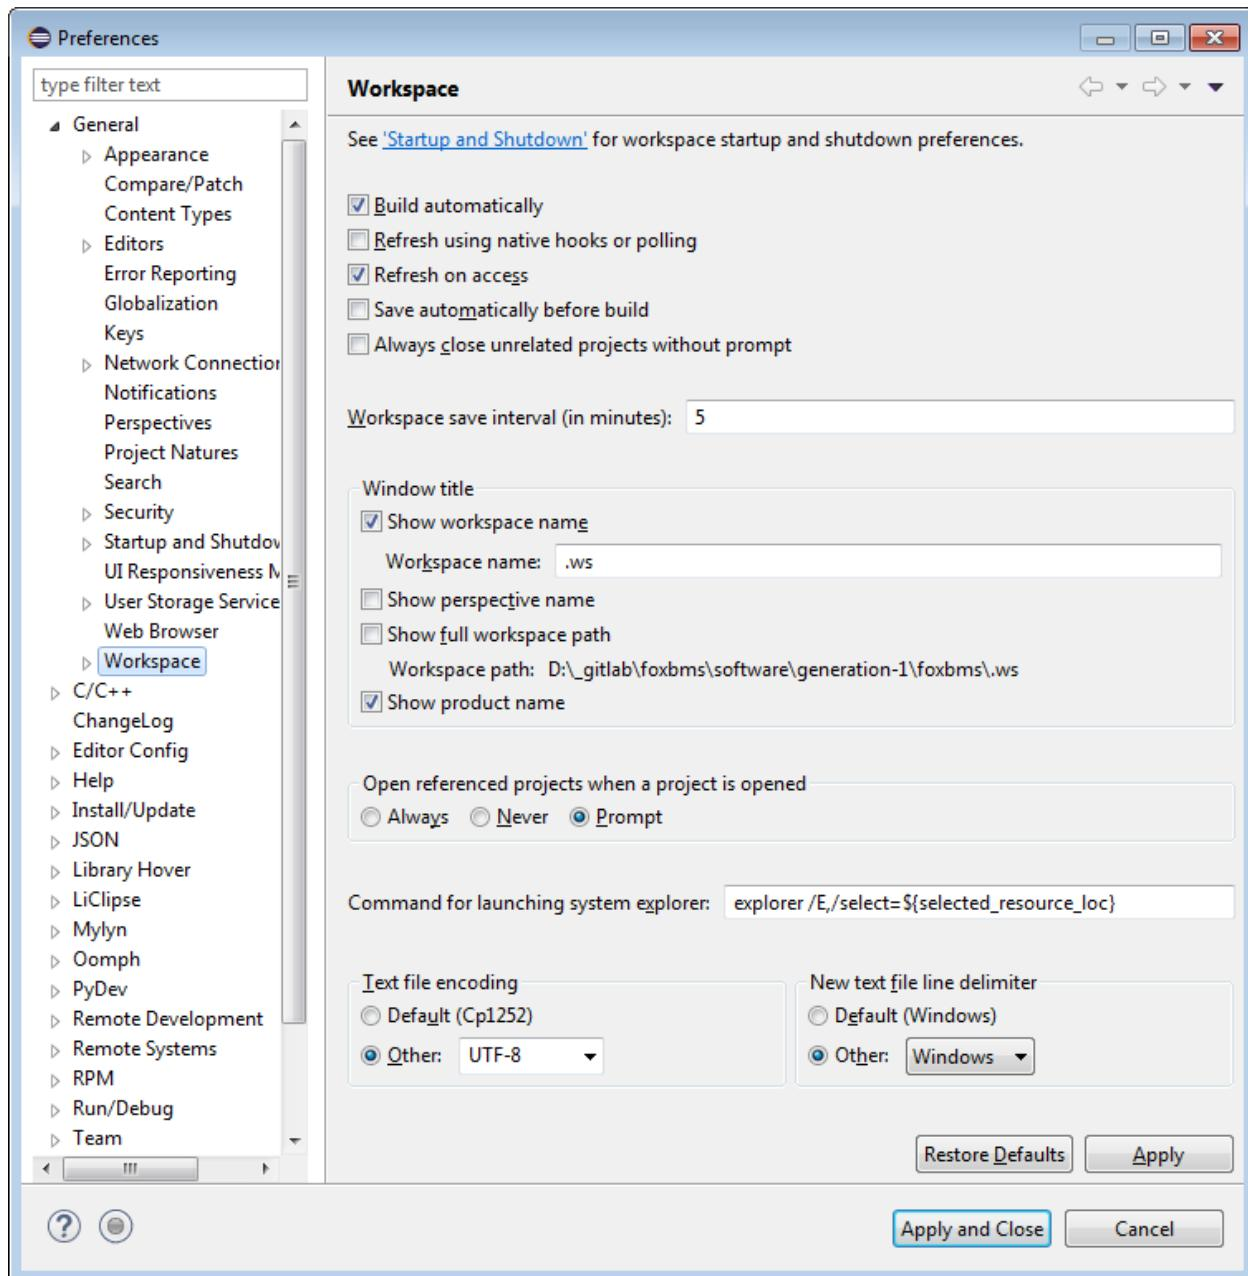

Fig. 11.5: Setting the default file encoding and the line delimiter
1. Open Window -> Preferences -> General -> Workspace, as shown in Fig. 11.5.